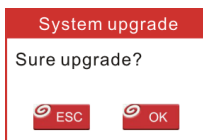

Figure 7-7
11. Once all steps are complete, reinsert the memory card into the tool and power the tool via USB in computer or via OBD2 port in vehicle. The tool will prompt you to upgrade, click [OK] to start updating and a progress bar will appear. It may take several minutes to finish update if your upgrade package file is too large, please wait. (Figure 7-7)